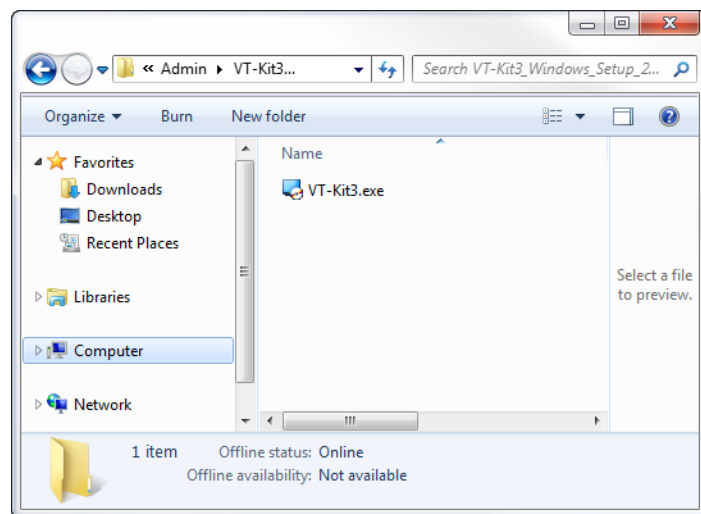

Figure 6. VT-Kit3 Executable Icon
3. Locate the driver software executable file that you downloaded. See Figure 6.